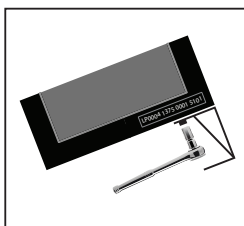

Figure 2.5
5. Remove the 2 bolts on the other side of the safe (Figure 2.5).